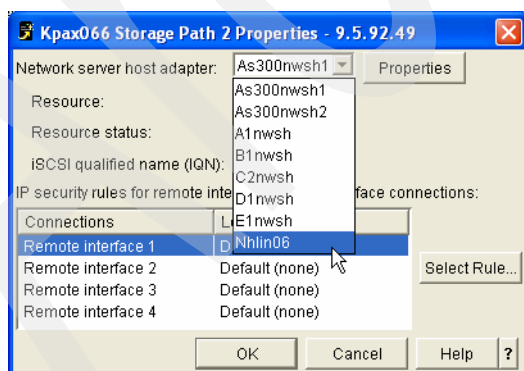

Figure 9-55 Creating a storage path for a hosted server - 2
5. Click **Add**. You see a window similar to the one displayed in Figure 9-55. Select the network server host adapter (NWSH) you want to use to create the storage path from the drop-down list. Click **OK**.